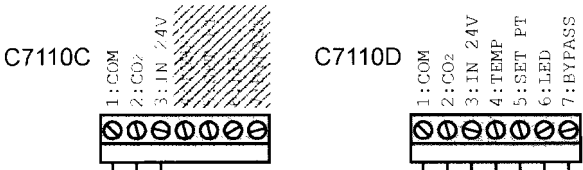

Fig. 5. Wiring diagrams for C7110C,D Wall Modules
Attach the wires from the device sensor terminals to the appropriate wall module terminals. See Fig. 5.
3. Verify wall module wiring with Fig. 5.